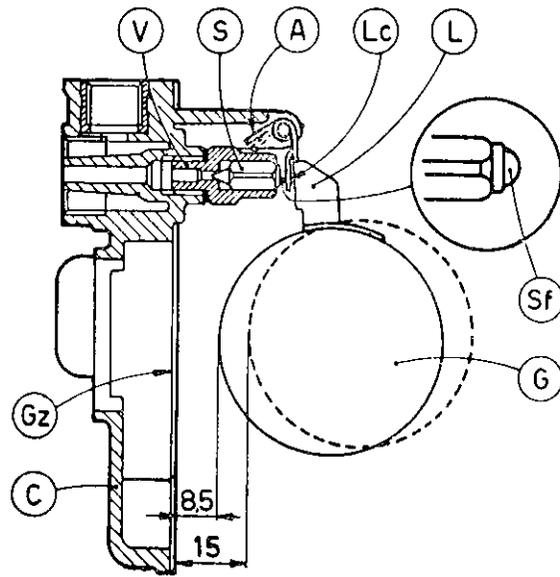

Fig. 19
Directions for Levelling the Float (Fig. 19)
- Make sure that the weight of the float (G) be the correct one (gr. 26), that the float can freely slide on the axis and does not show any pit.
- Make sure that needle valve (V) is tightly screwed in its housing and that pin ball (Sf) of the damping device, incorporated in the needle (S), is not jammed.
- Keep the carburettor cover (C) in vertical position as indicated in Fig. 19 since the weight of float (G) could lower the pin ball (Sf) fitted on the needle (S).
- With carburettor cover (C) in vertical position and float clip (Lc) in light contact with the pin ball (Sf) of the needle (S), the distance of both half-floats from upper surface of carburettor cover (C) with gasket (Gz) in its place, must measure 8,5 mm.
- After the levelling has been done, check that the stroke of float (G) is 6,5 mm. If necessary, adjust the position of the lug (A).
- In case float (G) had not been rightly set, rectify the position of float clip (Lc) till the required quota is reached, taking care that clip (Lc) does not show any pit on the contact surface that could affect the free sliding of the needle (S).